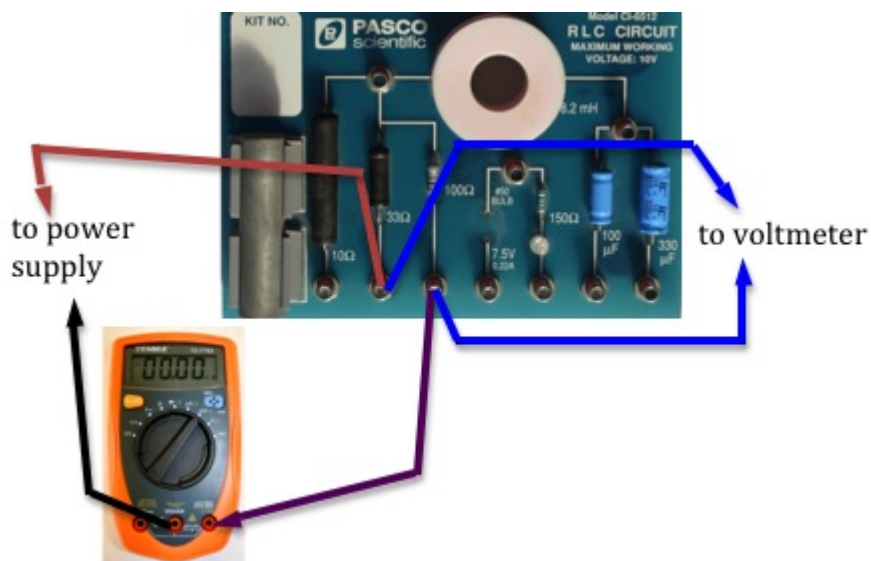
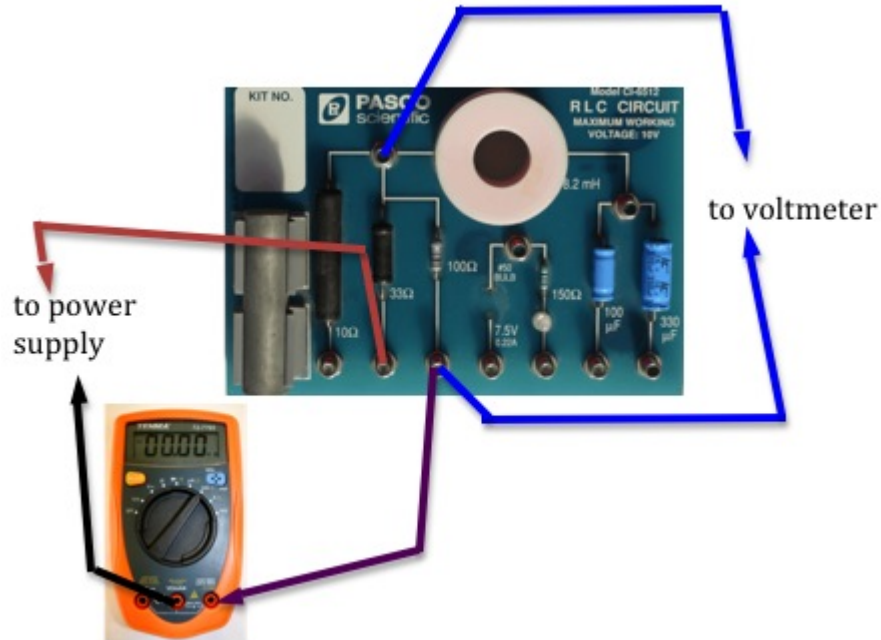

Figure 8: Connections for the series circuit
Figure 9: Measuring potential difference across the 100- $\Omega$  resistor
- 13 Connect the two resistors you used before in a series arrangement. Connect one multimeter in series with the two resistors to read the current flowing in the circuit. See Fig. 8.
You will use the other multimeter as a voltmeter for measuring the potential difference across the series combination (as shown in Fig. 8), and then across each individual resistor  $R_1$  and  $R_2$ . See Figs. 9 and 10 below.